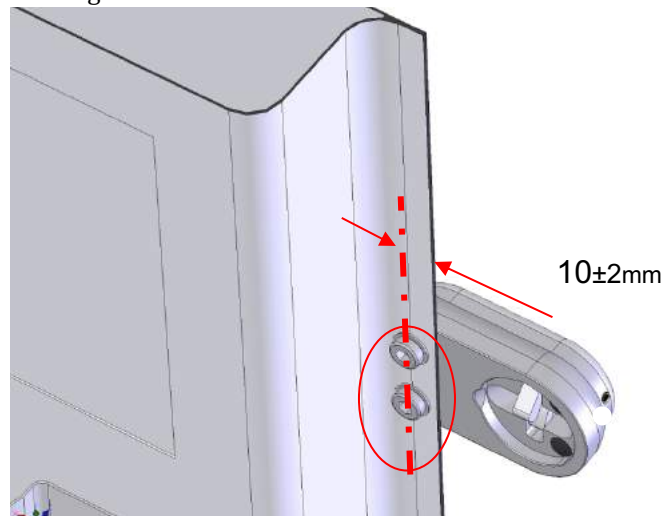

Fig.5
- **The position of the first two 9mm holes is about  $10 \pm 2$  mm from the vertical edge of the door that opens** (see fig.5). It is a very durable surface of the door. The stated tolerance is necessary to allow the placement of the M8 cylindrical bolts head within the edge and never over it
Before drilling, check that the head of the M8 bolt is contained in the edge (see Figure 5).